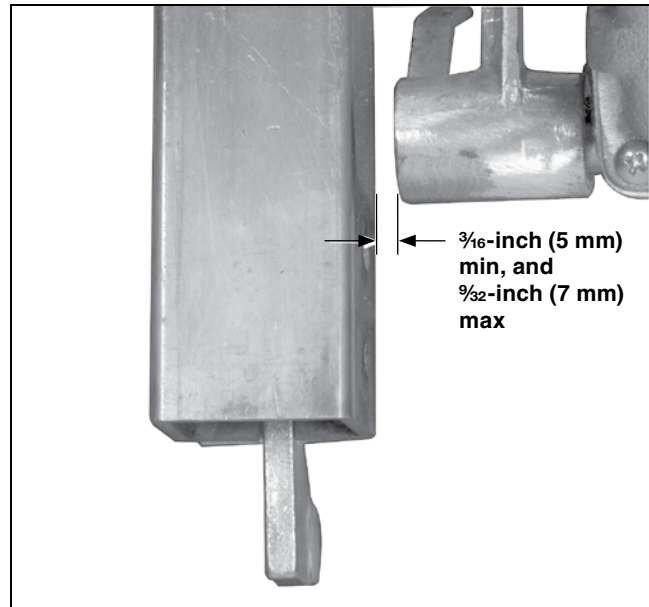

Figure 51. Verifying the gap between the end of the interrupter-lever shaft and the blade assembly.
- (g) Move the blade assembly *slowly* toward the **Closed** position until the blade assembly is under the interrupter-lever shaft. Verify the gap between the end of the interrupter-lever shaft and the blade assembly is between $\frac{3}{16}$ -inch (5 mm) and $\frac{3}{32}$ -inch (7 mm). See Figure 51.